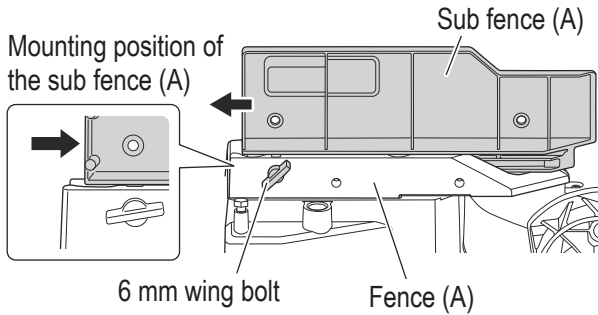

Fig. 12
2. Confirmation for use of sub fence (A) (Fig. 12)
In the case of direct angle cutting and left bevel angle cutting, slide inward to the position where the sub fence (A) hits, and secure it with 6 mm wing bolt. (as shown in Fig. 12)